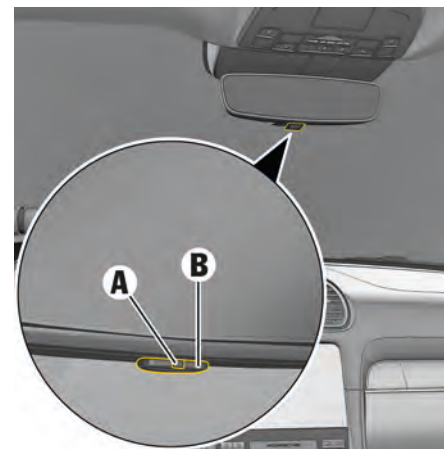

Fig. 80: Automatic interior mirror dimming
- ▶ Press button (Fig. 80 **B**).
- ➔ Indicator light (Fig. 80 **A**) lights up.
- ▶ Press button (Fig. 80 B).
- ➔ Indicator light (Fig. 80 A) goes out.